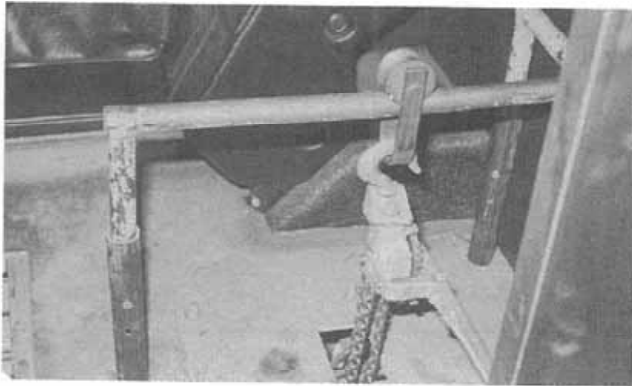

Figure 1:
2. Position a lift stand (with extensions), roller/yoke assembly and hoist over the transfer cable lift opening of the cab (Fig. 1).